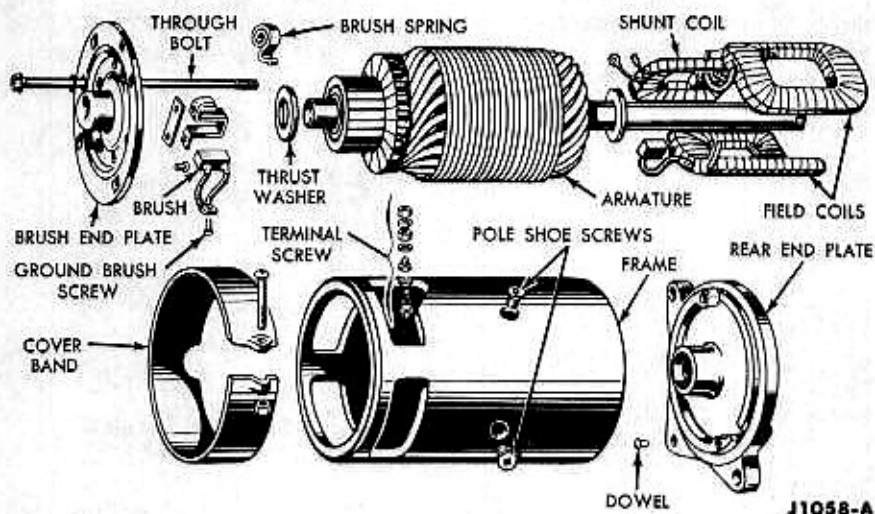

FIG. 13—Disassembled Starter Motor
Use the following procedure when it becomes necessary to completely overhaul the starter. Figure 13 illustrates the starter completely disassembled.
1. Remove the starter drive, through bolts, and rear end plate (Fig. 13). Be sure to remove all burrs from the shaft to prevent scoring the rear end plate bushing.